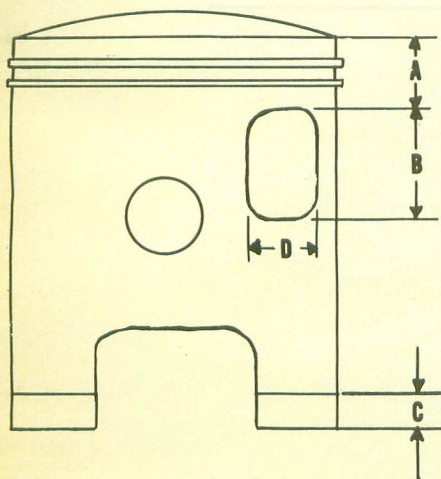

Fig. YT8-1—Drawing of standard R3 piston showing locations of comparison with road racing R3 RR piston.
Pistons in the R3 RR are 6MM (0.236 inch) shorter in the skirt (C—Fig. YT8-1) than R3 models. Port in piston is 14.5MM (0.57 inch) from top edge of piston (A); 21MM (0.826 inch) high and 12MM (0.47 inch) wide. Only one piston ring is used in racing models.